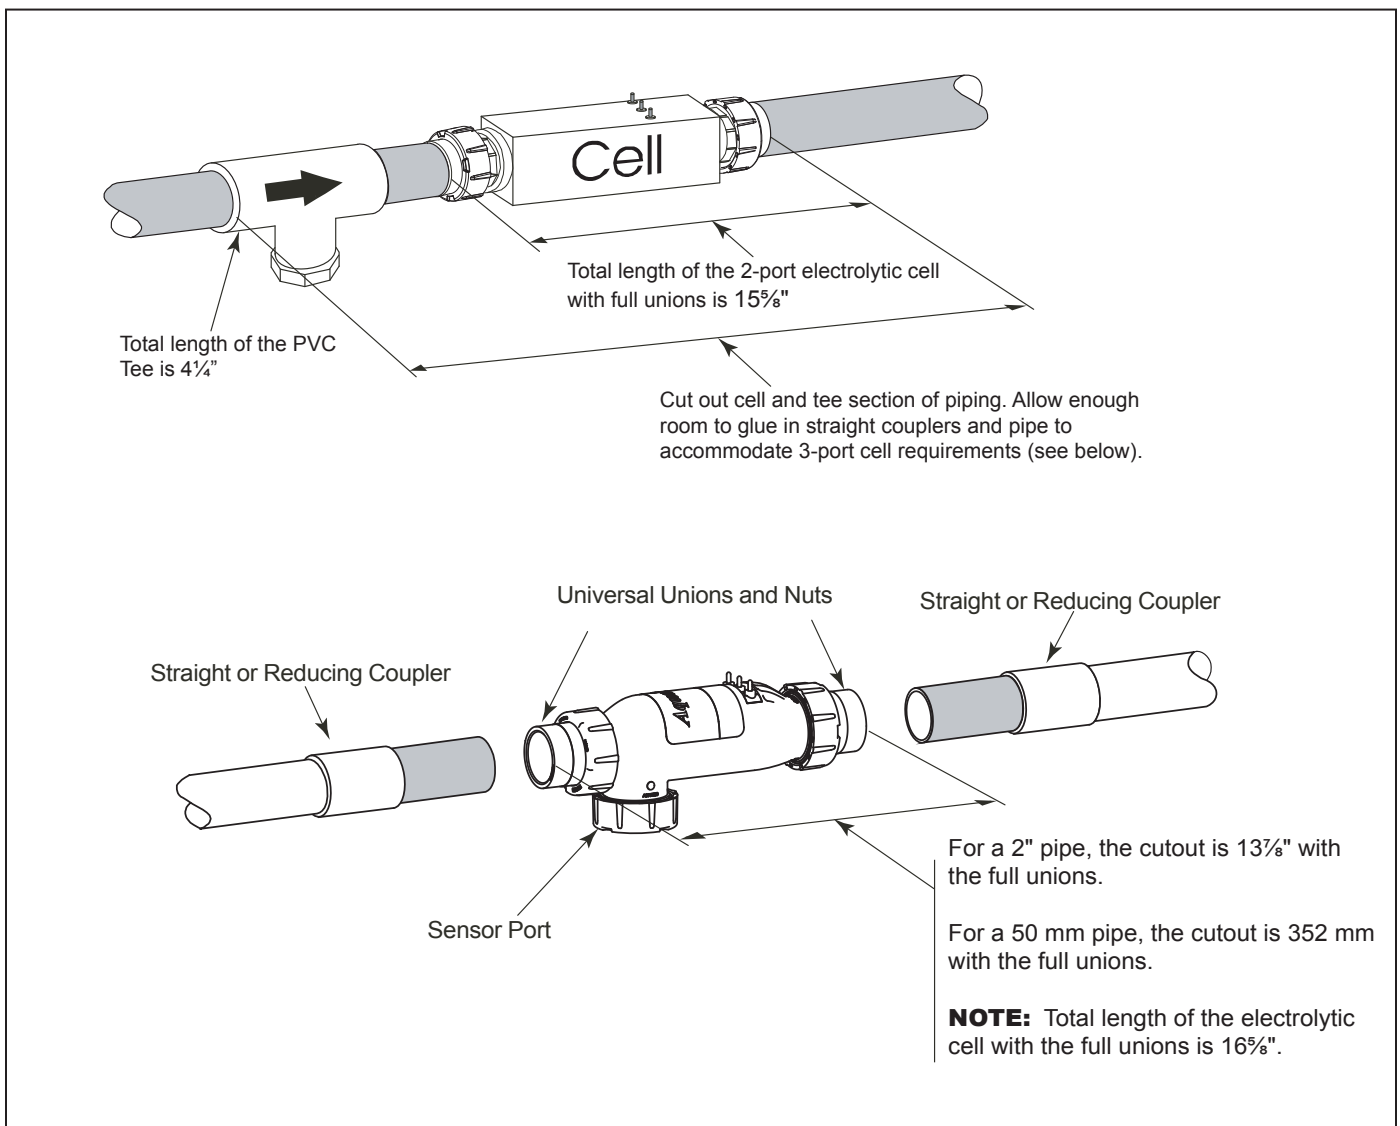

Figure 13. Pipe Cutout (Option 3 - Replace 2-Port Cell and Piping and treat as New Installation)
- Cut out section of pipe that contains cell, sensor, and fittings. Glue straight couplers or reducing coupler onto open ends of piping. Make sure to leave enough length to fit in new cell (see Figure 13).